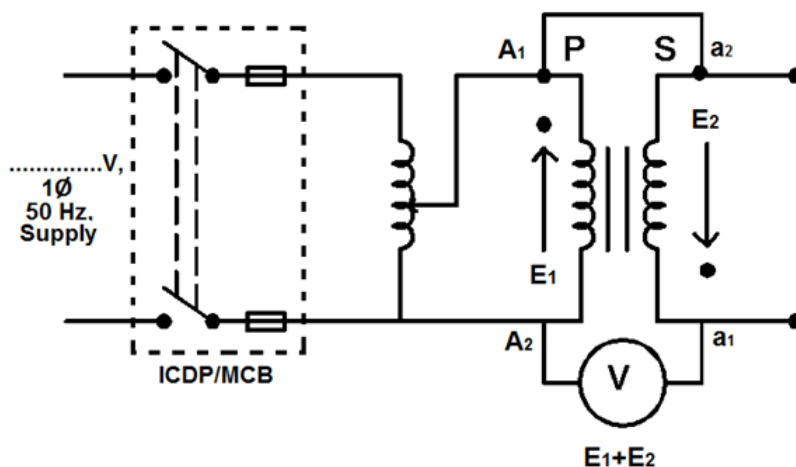

Fig 2. Additive polarity
7. Make the connections as per circuit diagram (Fig.2).